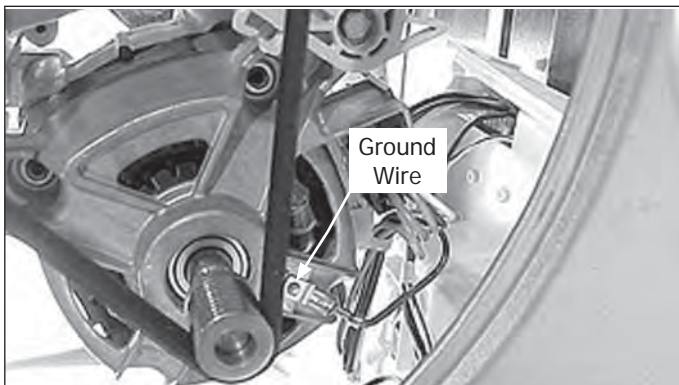

Figure 4-87.
2. Disconnect the electrical plug and the ground wire from the motor. (See Figure 4-87)